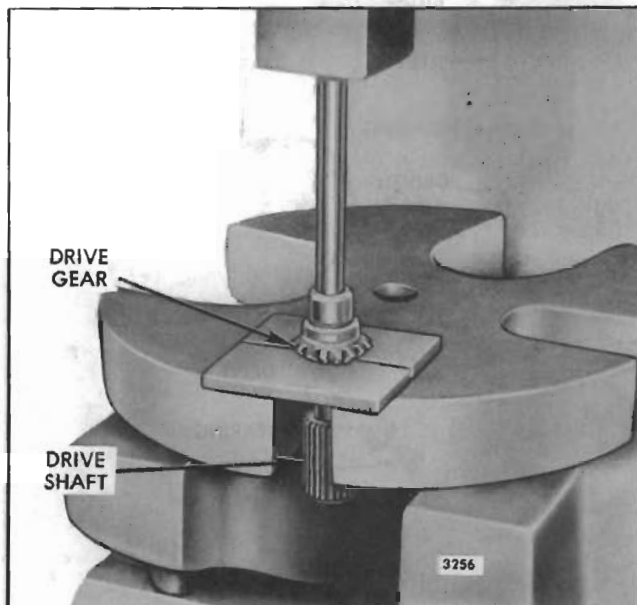

Fig. 5 - Removing Drive Gear from Drive Shaft
- f. If removed, thread the lock nut (7) on the load limit adjusting screw (8). Place the copper washer (6) over the end of the load limit adjusting screw, then thread the screw into the subcap until the end protrudes approximately 1/8" through the second boss inside the subcap (Fig. 5).
27. Affix a new gasket (3) to the top face of the governor subcap, then place the governor cover on top of the gasket and install the three screws with lock washers. Tighten the screws securely.
Refer to Figs. 5 and 6 and proceed as follows:
- c. Place two split brass plates beneath the teeth of the drive gear, then support the assembly on the bed of an arbor press (Fig. 5). Place a brass rod on the end of the drive shaft, then press the drive shaft from the drive gear.